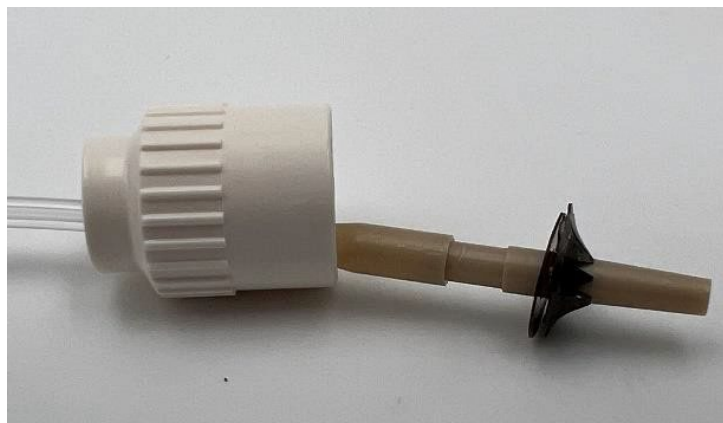

Figure 2: Failed connection
Due to a slowly progressed joining-tool wear, it is possible that the two plates inside the securing nut might break free of the securing nut (see Figure 2).
1. The probe is placed and tunneled. The user tries to make the connection between the securing nut and the probeside-connector. The connection fails (as shown in Figure 2) and cannot be made. The two plates and the securing nut can be removed from the probeside-connector, a new securing nut needs to be used. Therefore, a new product needs to be opened.
2. The probe is placed and tunneled. The user tries to make the connection between the securing nut and the probeside-connector. The connection fails (as shown in Figure 2) and cannot be made. The two plates and securing nut cannot be removed from the probeside-connector, the probe needs to be removed and a new probe must be placed and tunneled.